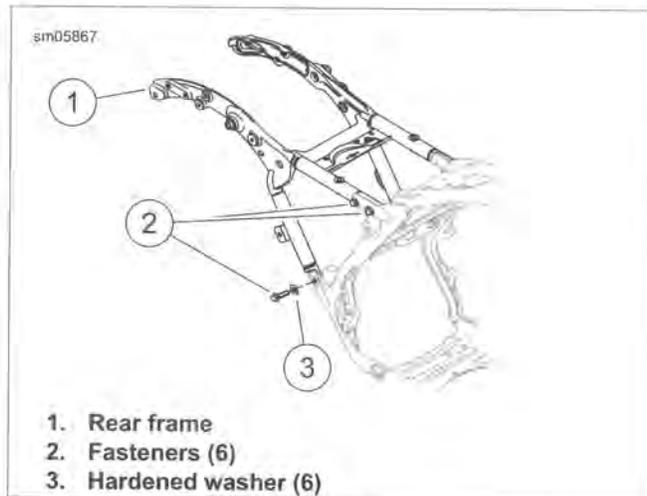

Figure 2-167. Subframe
10. See Figure 2-167. Remove six fasteners (2) and washers (3) securing the rear frame (1).
1. See Figure 2-167. Hold the rear frame in place and start two lower fasteners (2) and hardened washers (3). Install four remaining upper fasteners and hardened washers.